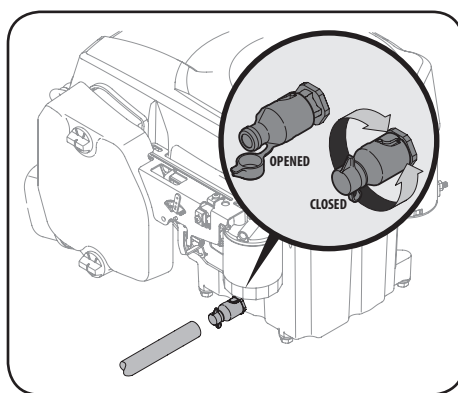

Figure 4-1
3. Open the protective cap on the end of the oil drain valve to expose the drain port. See inset of Figure 4-1.
6. Slightly push in on the oil drain valve and rotate counter-clockwise to open and allow the flow of oil. See Figure 4-1.